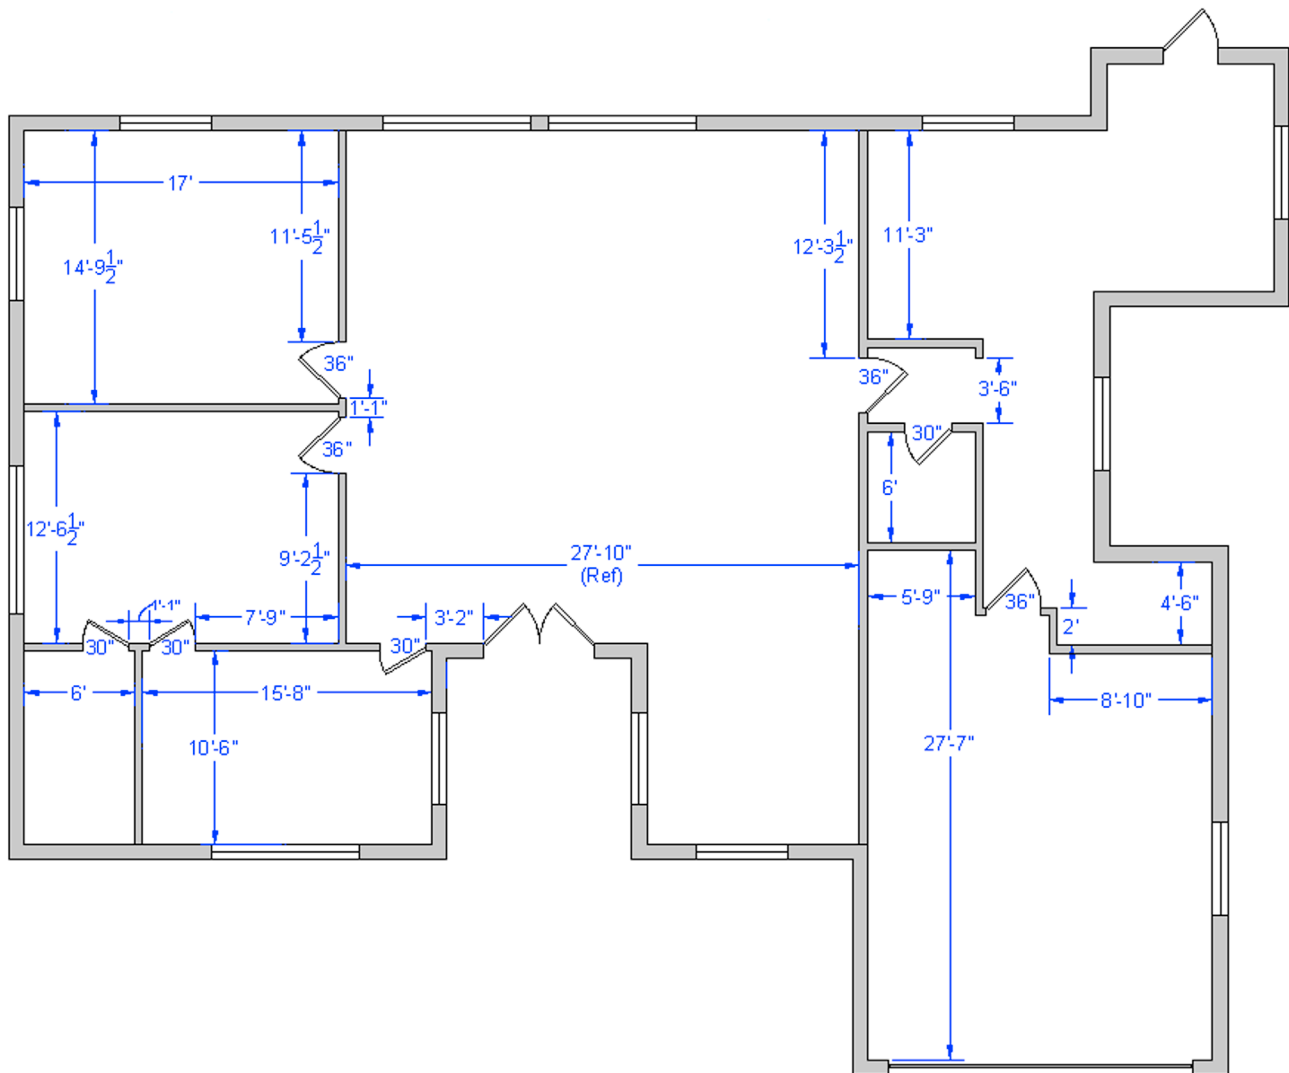

FIGURE 12.12 Interior walls and doors.
Step 3. Add in the interior walls and doors as shown in Fig. 12.12. All interior walls are 5" thick. Also add in the actual dimensions themselves. As mentioned before, they are very useful as a check of your drafting accuracy.